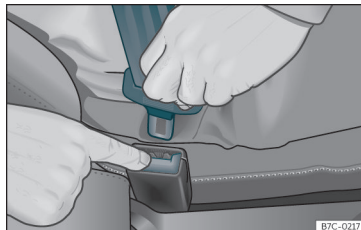

Fig. 10 Release the seat belt's buckle.
- Pull the latch plate and place the belt webbing evenly across your chest and lap. Do **not** twist the seat belt when doing so »» **Fig. 10.**
- Press the red button on the buckle »» **Fig. 10.** The latch plate is released from the buckle.